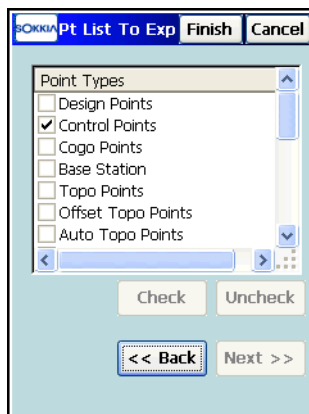

Figure 5-21. Select Point Type(s) to Export
4. If *By Type* or *By Type, Range and Code* was selected in the *Points* drop-down list, on the *Point Type(s) to Export* screen, select the types of points to be exported (Figure 5-21).